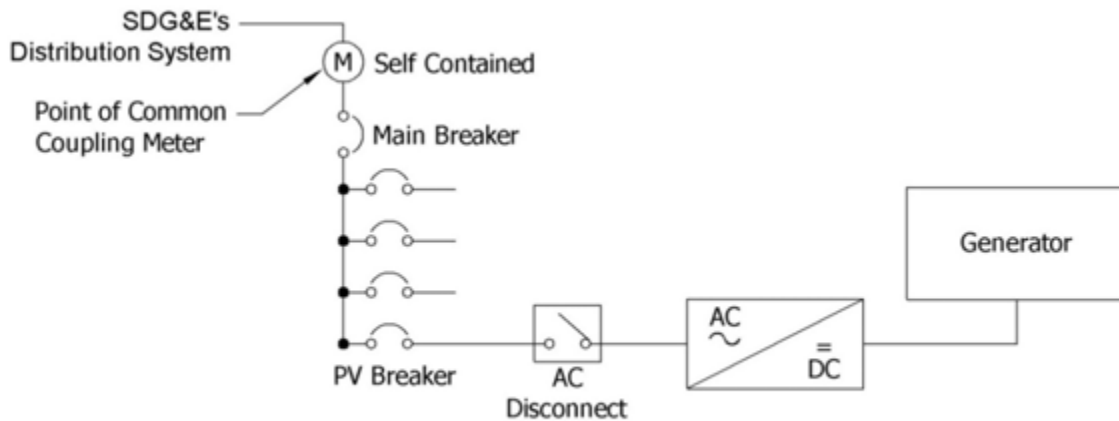

FIGURE 2
2. A disconnect switch is highly recommended but not required. Refer to Figure 2 on page SG 806.4 if you choose to install a disconnect switch.